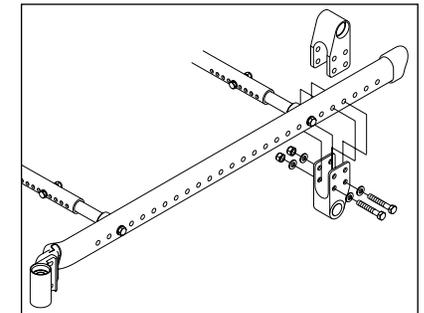
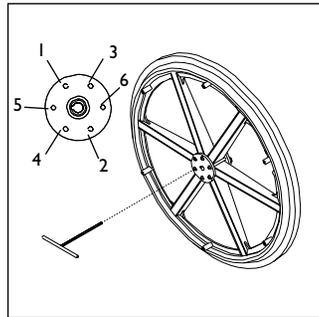

Fig. 5
Fig. 6
**I. Installation (Figs. 5 & 6)**
- Thread screw (4) partially through threaded hub (3) to position hubs on both sides of wheel.
- Insert alignment tool or axle with key (2) through hub and wheel assembly, aligning keyways.
- Add washer (5) and thread nut (6) on alignment tool.
- Install screws on hubs in sequence shown (Fig. 6) using 1/8" Allen wrench.
- Remove screw (4) and alignment tool (2).